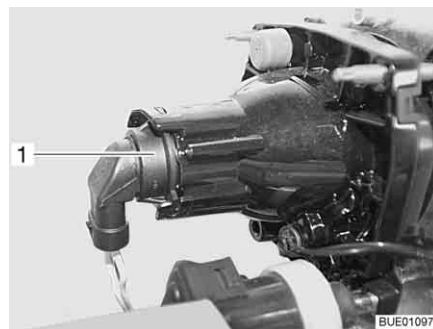

Fig. 254 Low beam/main beam/parking light
- Put your hand behind the lamp holder (Fig. 254,1).